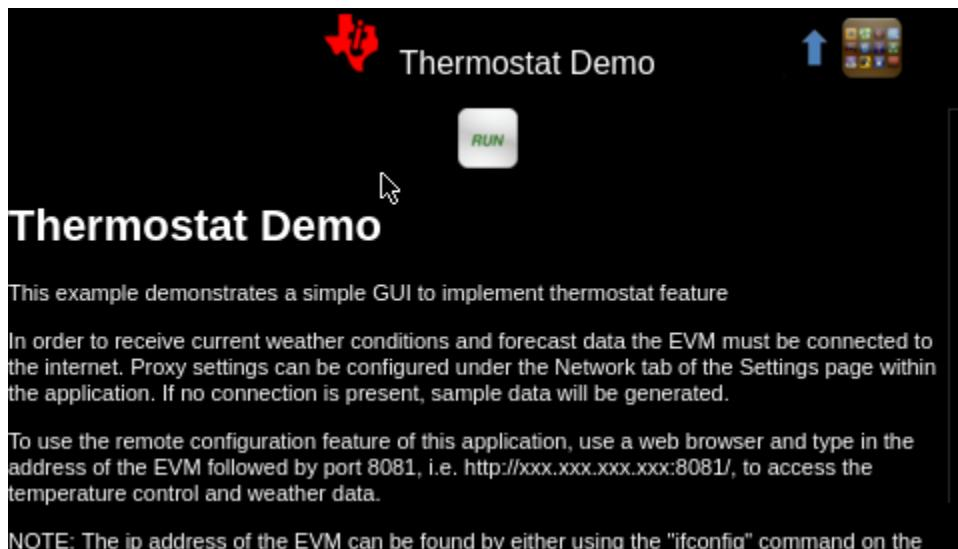

図 8. Smart Thermostat HMI Description and Run Screen
3. 図 8 appears on the screen. Click the *Run* button to launch the Smart Thermostat HMI demonstration GUI.